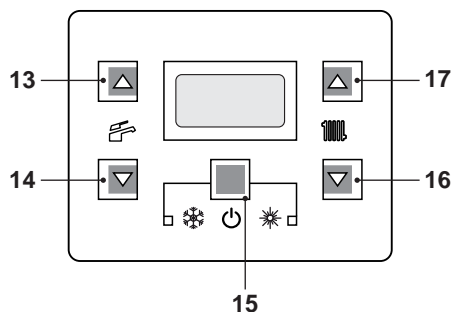

Fig. 8.3
- Enter in "programming mode" by pressing keys 15 - 16 - 17 (Fig. 8.3) for 10 seconds at the same time until the letters Pr that alternate with code 01 are displayed on the LCD display, indicating that "parameter 01"(Fig. 8.4) has been activated.
- Press keys 15 and 17 (Fig. 8.3) at the same time until the value of parameter 05(00=G20) is displayed on the LCD display (Fig. 8.6).
- By pressing key 17 three times, it is possible to change the value of parameter 05 from **00**=G20 to **05**=G31, which is ok for LPG gas.
- By pressing key 15 (Fig. 8.3) confirmation of the inserted value is obtained.
- Press keys 15 and 16 (Fig. 8.3) at the same time to exit without changing the value (return to the parameters list Fig. 8.5)
- Press keys 15 - 16 - 17 (Fig. 8.3) at the same time for 10 seconds to exit the "programming mode".